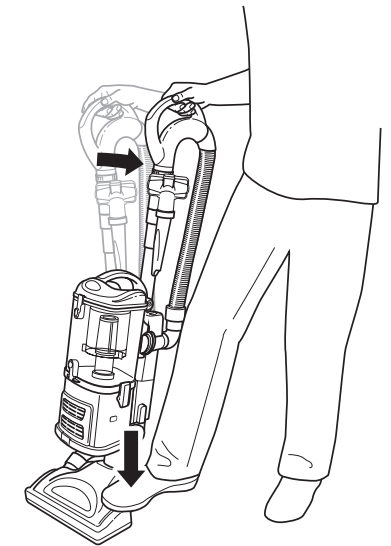

Fig. 7
- 4 To activate the brushroll, step on the floor nozzle, then tilt the handle back. **(Fig. 7)**